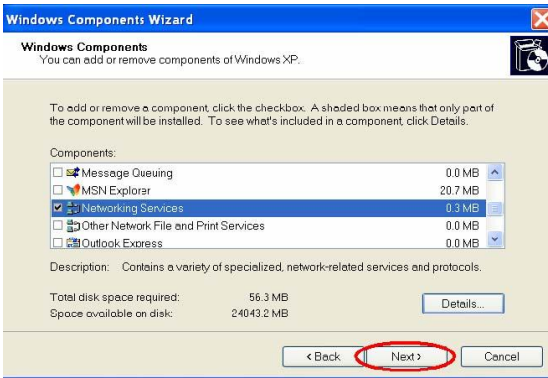

Figure A-12
**Step 5:** When the original **Network Component Wizard** dialog box returns, click **Next**. See Figure A-12.